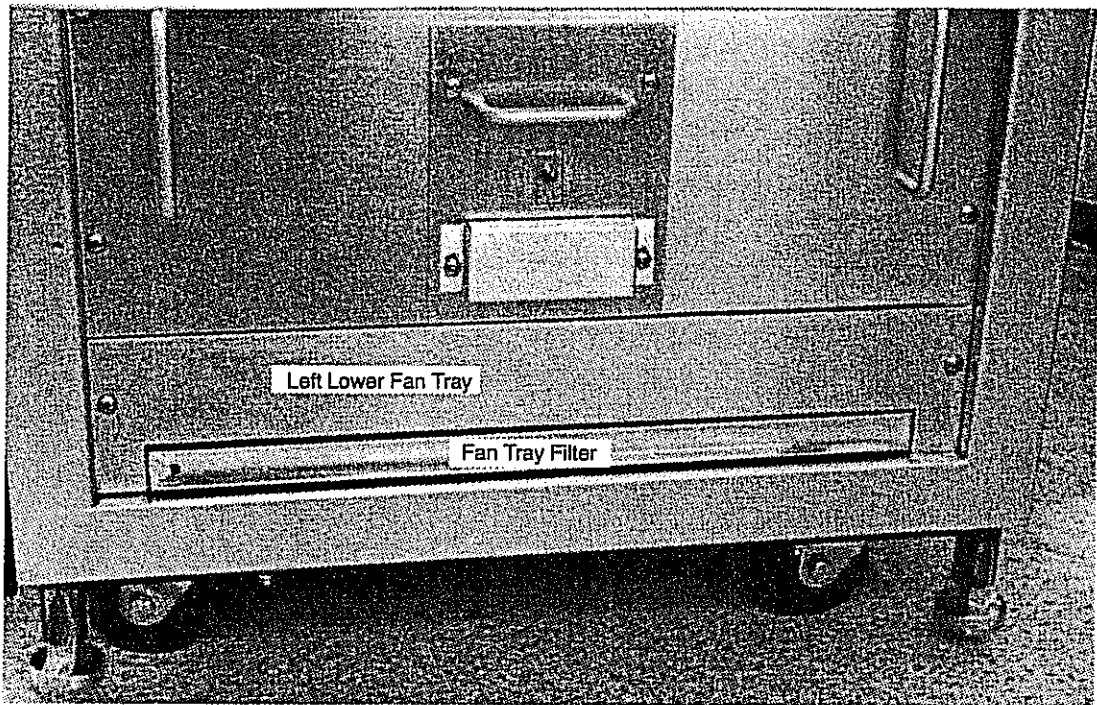

Figure 7-33. Left Lower Fan Tray
The status lights on the control panel illuminate to indicate that a fan is not operating and should be replaced. Refer to Figure 7-20 for the location of the lower CPU fan tray. Figure 7-33 is a photograph of the left lower fan tray.
3. Remove the two securing screws from the fan tray. Refer to Figure 7-33.
4. Pull out the filter. Refer to Figure 7-33.